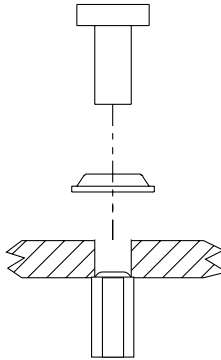

FIGURE 2-15 Cone Washer and Standoff
7. **Install discrete attachment hardware through the cone washer and into the board and standoff (FIGURE 2-15).**